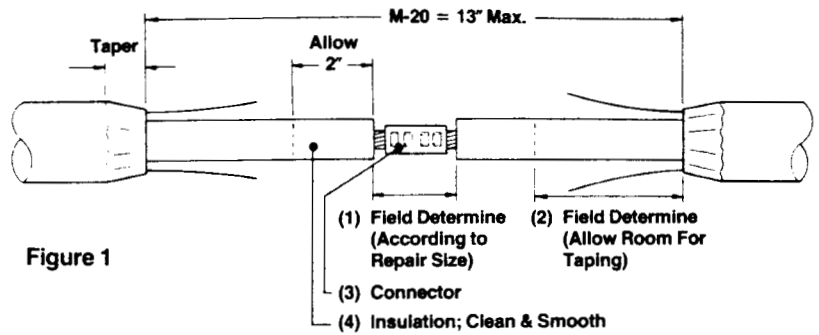

Figure 1
1. 600/2000 Volt Portable Cable (Non-Shielded) (Figures 1 & 2):